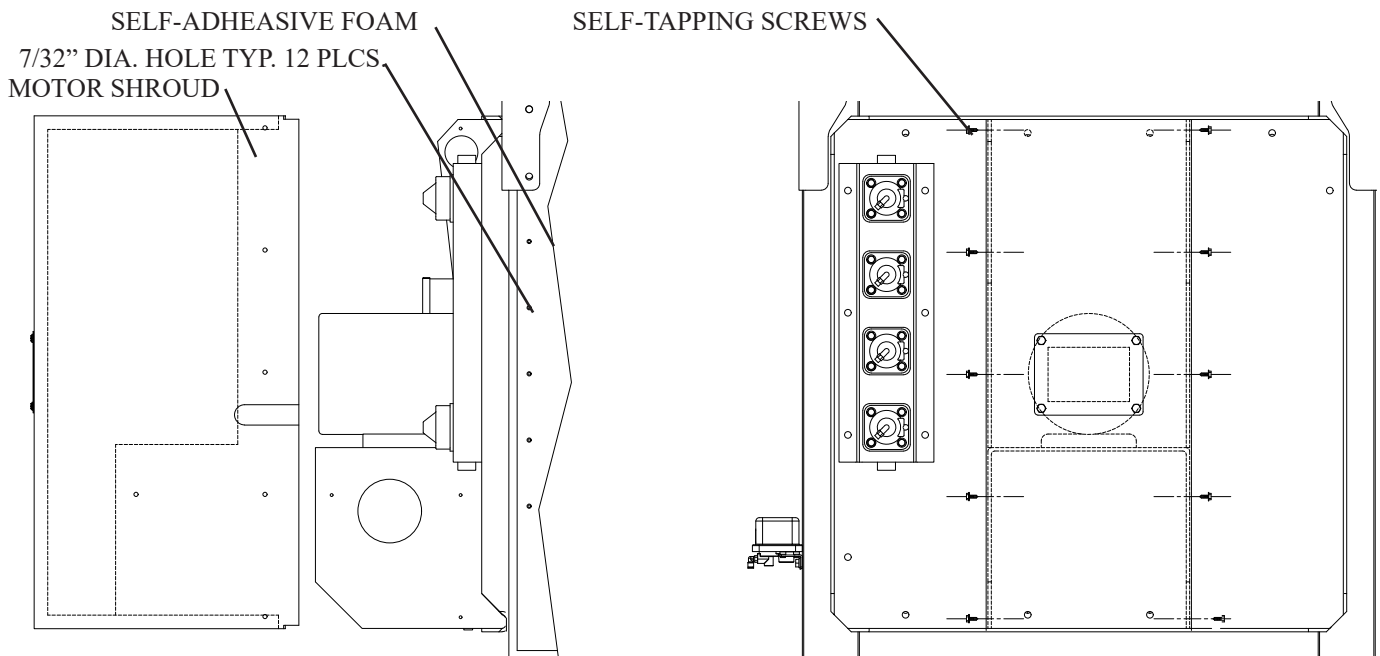

FIGURE 15
2. Examine the vertical braces on each side of the motor that run the full length of the motor blower assembly. If each of the vertical braces have six (6) 7/32" diameter holes proceed to Step 6. If the braces do not have the six (6) 7/32" diameter holes proceed to Step 3.
3. Place the motor shroud, as shown in Figure 15 below, over the motor having located the slotted hole of the motor shroud on the right hand side. This will allow the wiring conduit to clear the motor shroud.
4. With the shroud in place mark the centers of the six (6) holes in each vertical brace. On the bottom right hand side of the shroud the electrical box will prevent you from marking two (2) of the holes. The two (2) holes may be omitted.
7. Re-install the motor shroud around the motor and attach using the twelve (12) self-tapping screws provided.